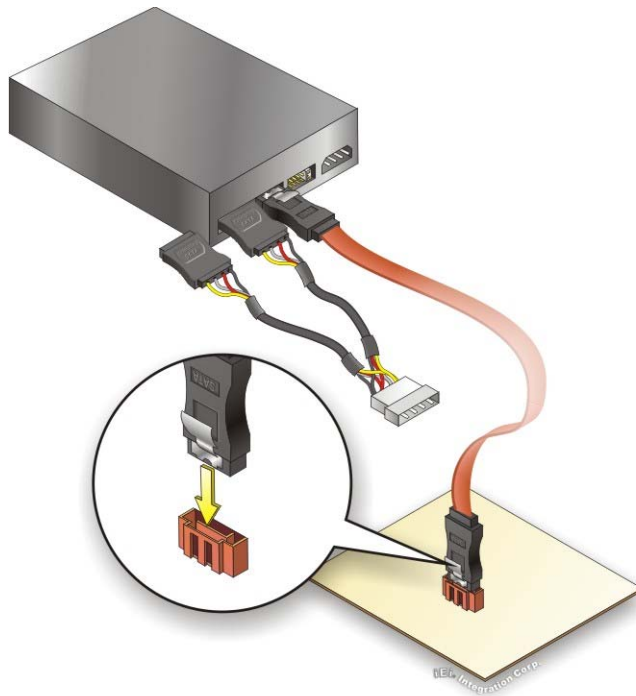

Figure 4-13: SATA Power Drive Connection
Step 3: **Connect the cable to the SATA disk.** Connect the connector on the other end of the cable to the connector at the back of the SATA drive. See **Figure 4-13**.
Step 4: **Connect the SATA power cable (optional).** Connect the SATA power connector to the back of the SATA drive. See **Figure 4-13**.